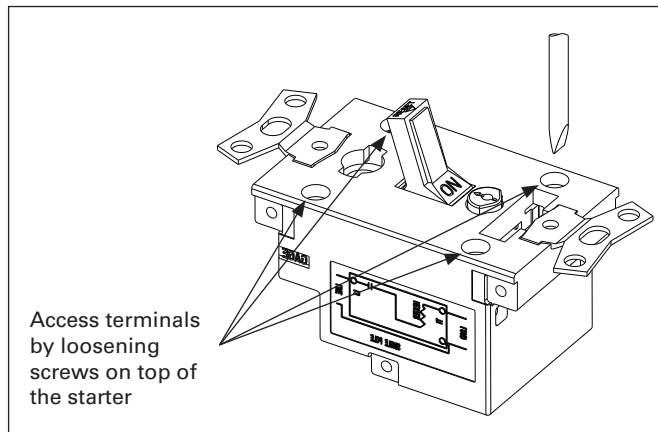

Figure 5. Terminal Access
7. Access the terminals of the starter (C) as shown in Figure 5.